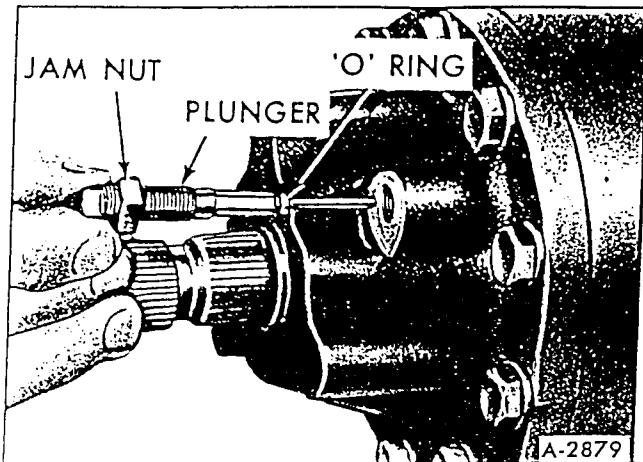

Figure 10 - Removing Relief Valve Plunger (Typical)
3. Loosen jam nut on relief valve plunger and remove plunger from both ends of power steering gear (fig. 10).